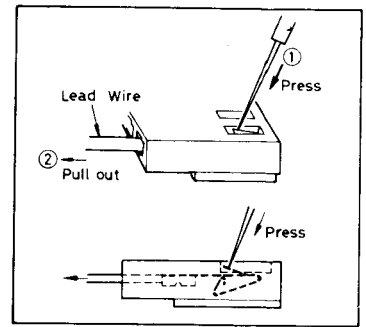

Fig. 6
4. To remove from the socket, hold the terminal with a sharp-point tool such as a needle, as shown in figure 6, and pull out the lead wire at the same time.